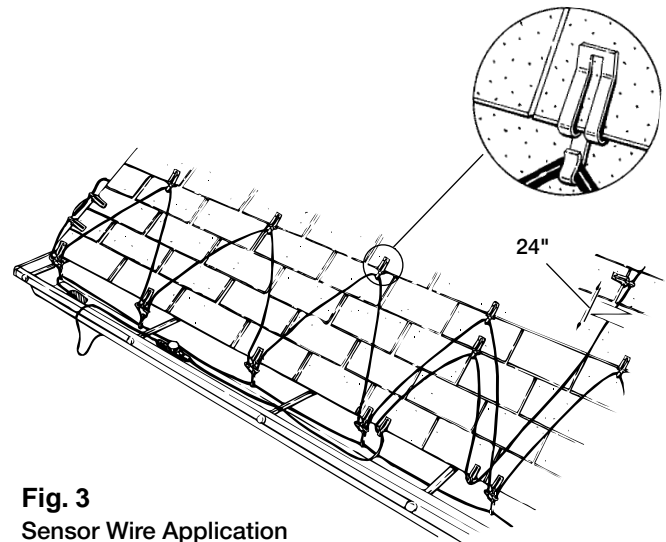

Fig. 3
2. Lay the thermostat block and sensor wire along the bottom of the gutter within two inches of the roof de-icer cable. Route the sensor wire over at least one gutter support strap or nail in order to sense the full depth of the gutter, then route along one triangular weave of the heating cable on the roof as per diagram. At the peak of the second triangle, attach the sensor wire up the roof, at least 2 feet past the heater wire as illustrated. Use the clips provided to secure the sensor wire to the roof. Gently squeeze the coated end of the clip around the sensor wire. See Fig. 3.